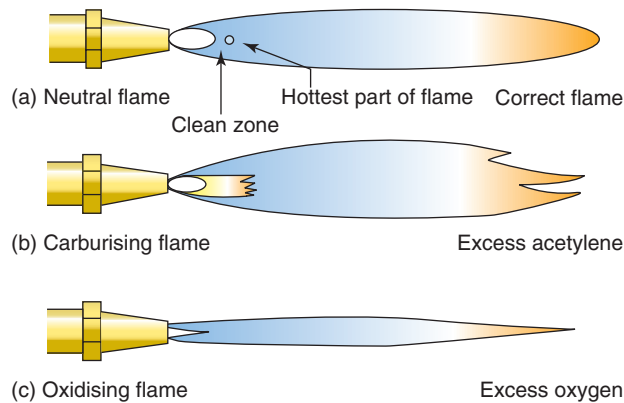

Figure 10.11 Correct flame
Referring to Figures 10.11(a)–(c), the gases most commonly used for lead welding are oxygen and acetylene. Portable equipment is readily available making in situ work relatively easier.
of the small cone at the tip of the nozzle when the flame is correctly adjusted, as shown in Figure 10.11(a). At this point the temperature is far in excess of the melting point of lead.
- Turn on the acetylene first, followed by the oxygen to produce a clean neutral flame, as in Figure 10.11(a)
- Avoid excess acetylene as this will give a carburising flame, as in Figure 10.11(b)
- Avoid excess oxygen as this will produce an oxidising flame, as in Figure 10.11(c).